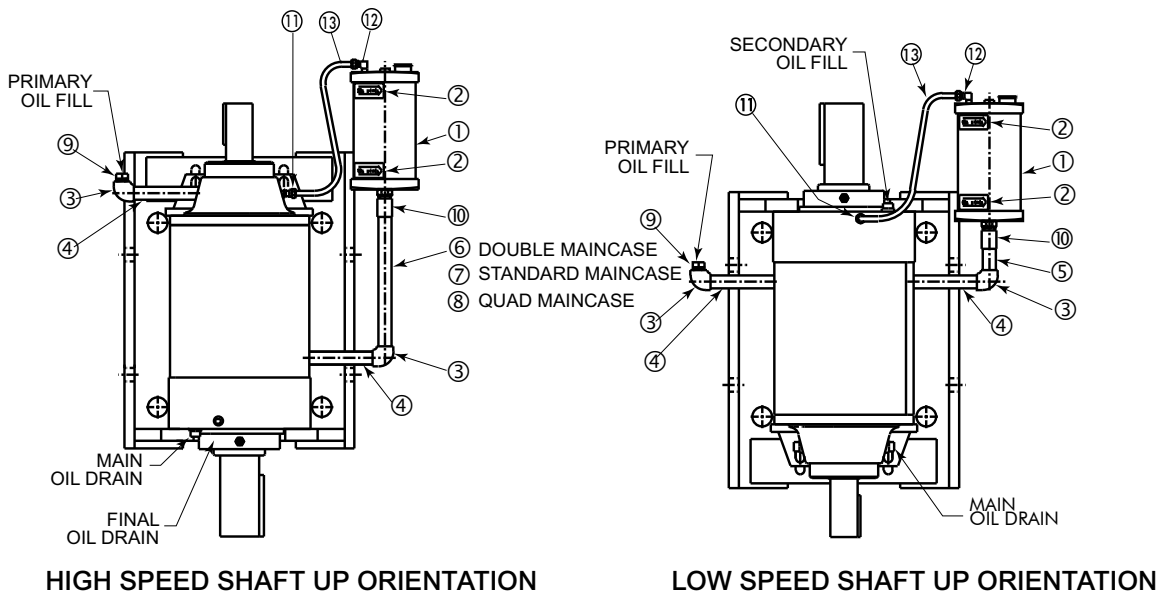
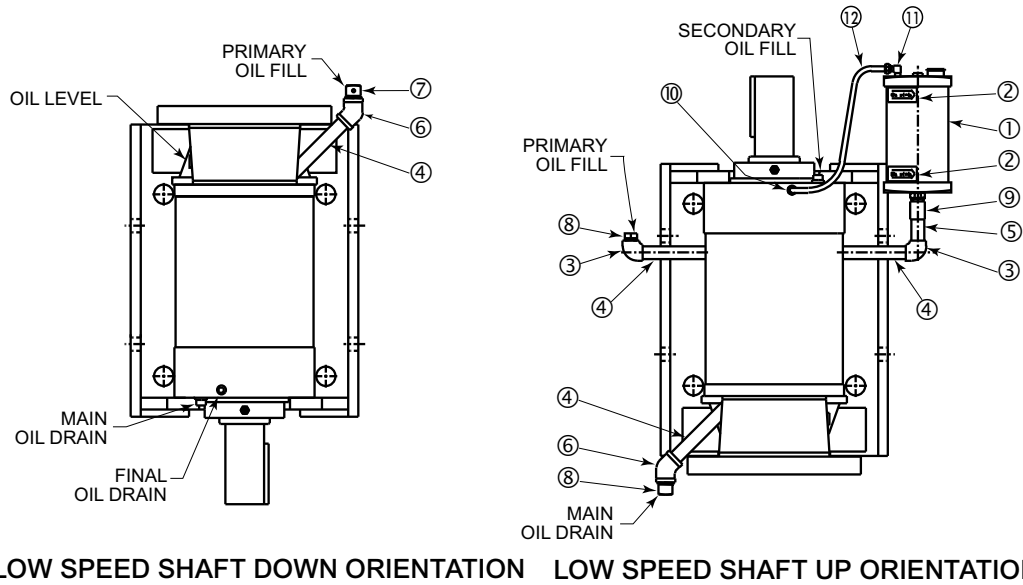

Figure 7.1a Vertical Service Shaft Orientations (Standard Reducers)
Figure 7.2a Vertical Service Shaft Orientations (Standard Reducers)
Assemble components as shown in Figure 7.1a & Table 15, and Figure 7.2a & Table 16. It is difficult to determine all potential field installation interference points. If necessary please substitute different pipe fittings as required. In doing so, it is important that the bottom of the reservoir is at or above the uppermost bearing. Holes have been drilled by the factory to facilitate both right hand or left hand oil reservoir mounting. Apply pipe sealant to all threaded connections during assembly.
1. Begin by filling the reducer thru the primary oil fill in the maincase until full. Reference Figure 7.1a.
1. Begin by draining oil from main oil drain in maincase. Reference Figure 7.1a.